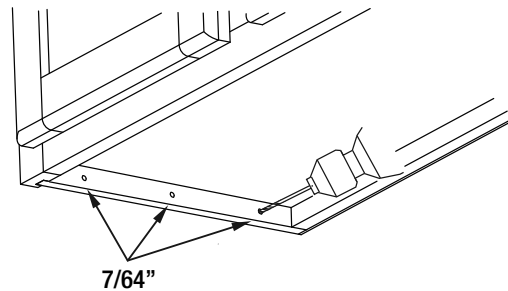

Fig. 18-2
- Set the bracket aside and drill three 7/64" holes in the marked locations as shown in figure 18-2